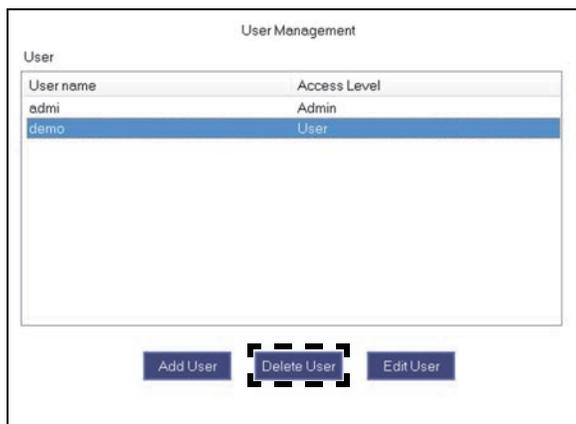

Figure 1-44 The User Management pane – Delete User button
2. Click **Delete User** (see Figure 1-44 on page 36).